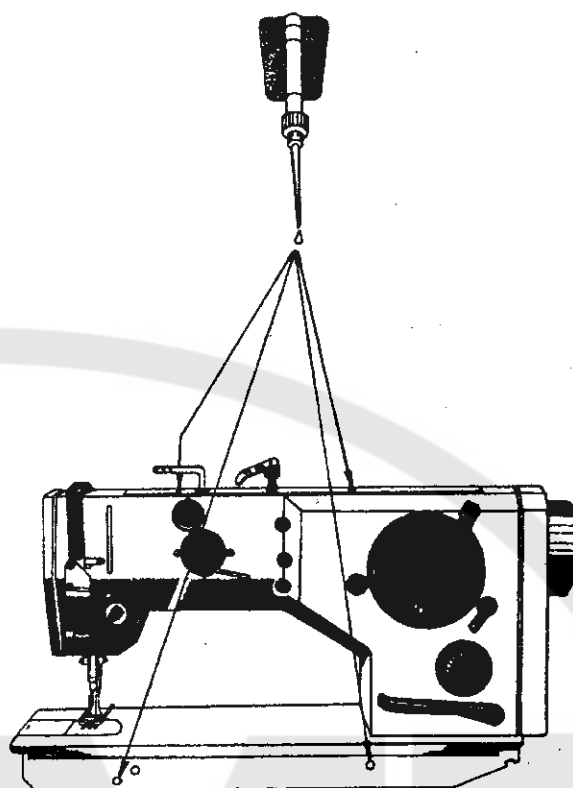

Figure 1
5. To clean and lubricate the machine (Fig. 1)